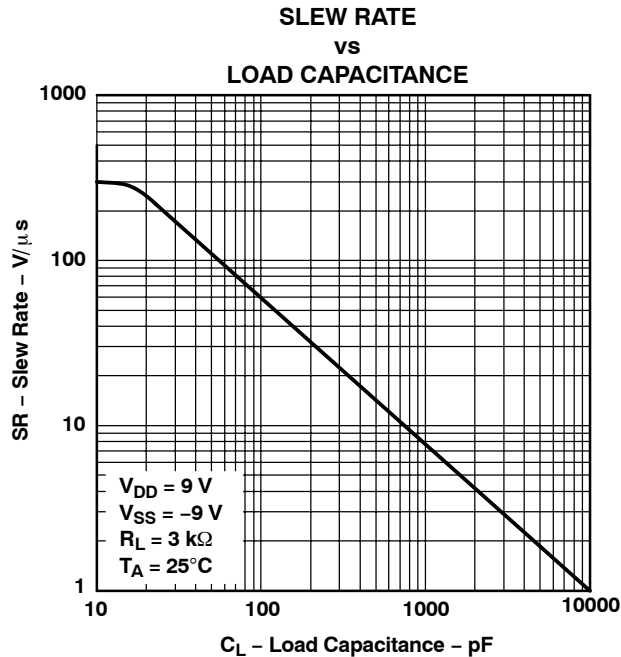

Figure 10.
- (1) See Figure 10 to select the correct values for the loading capacitors (C1, C2, and C3), which are required to meet the RS-232 maximum slew-rate requirement of 30 V/ μ s. The value of the loading capacitors required depends on the line length and desired slew rate, but typically is 330 pF.